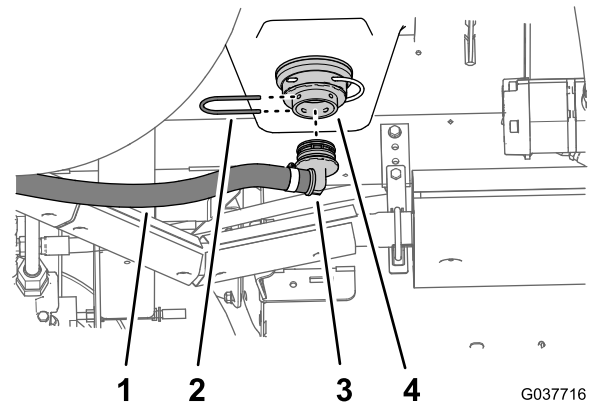

Figure 76
5. Secure the 90° hose fitting to the adapter fitting with the retainer (Figure 76) that you removed in step 1 of Removing the Bypass and Drain Hoses (page 14).